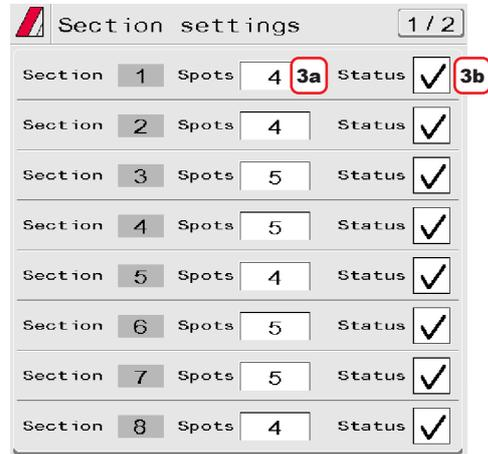

Fig. 38
- 3a Repeat the setup for each section (Fig. 38).